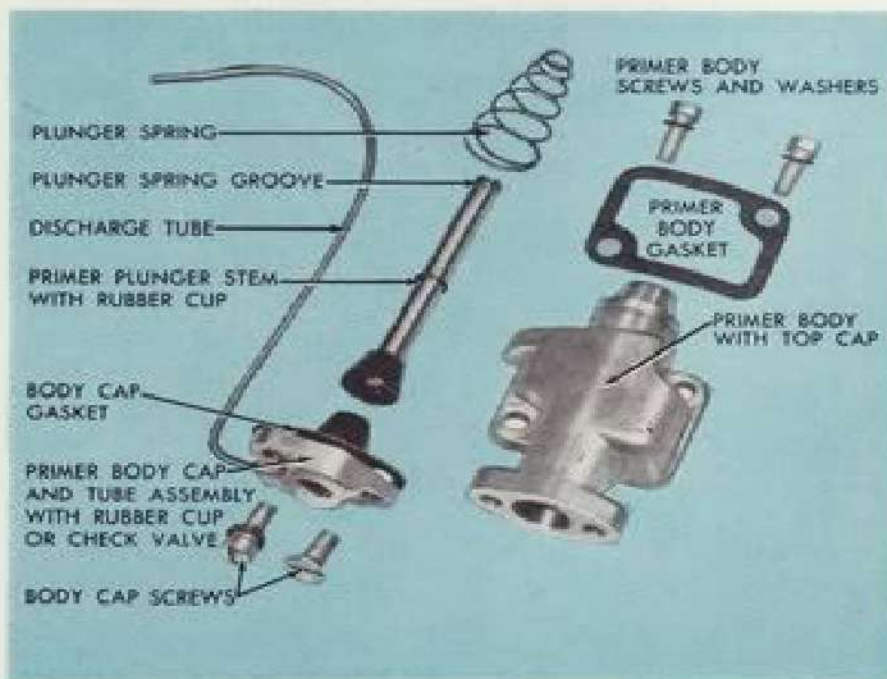

Fig. 7
**PRIMER** (See Fig. 7) The primer assembly, attached to the carburetor float bowl, provides a sure, quick method of starting motor.